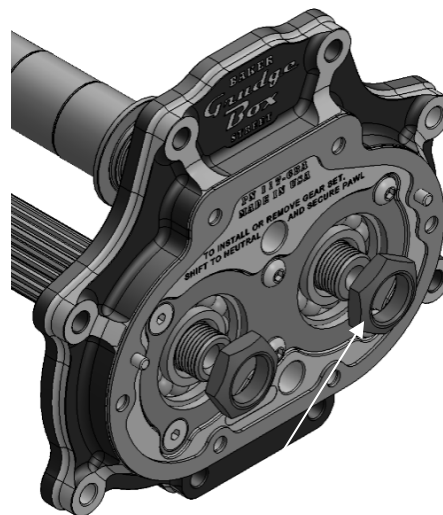

FIGURE 3 | RETAINING NUT INSTALLATION
3. Install the supplied mainshaft and countershaft retaining nuts with red thread lock. Install the nuts so that the chamfer faces outward (see figure 3).